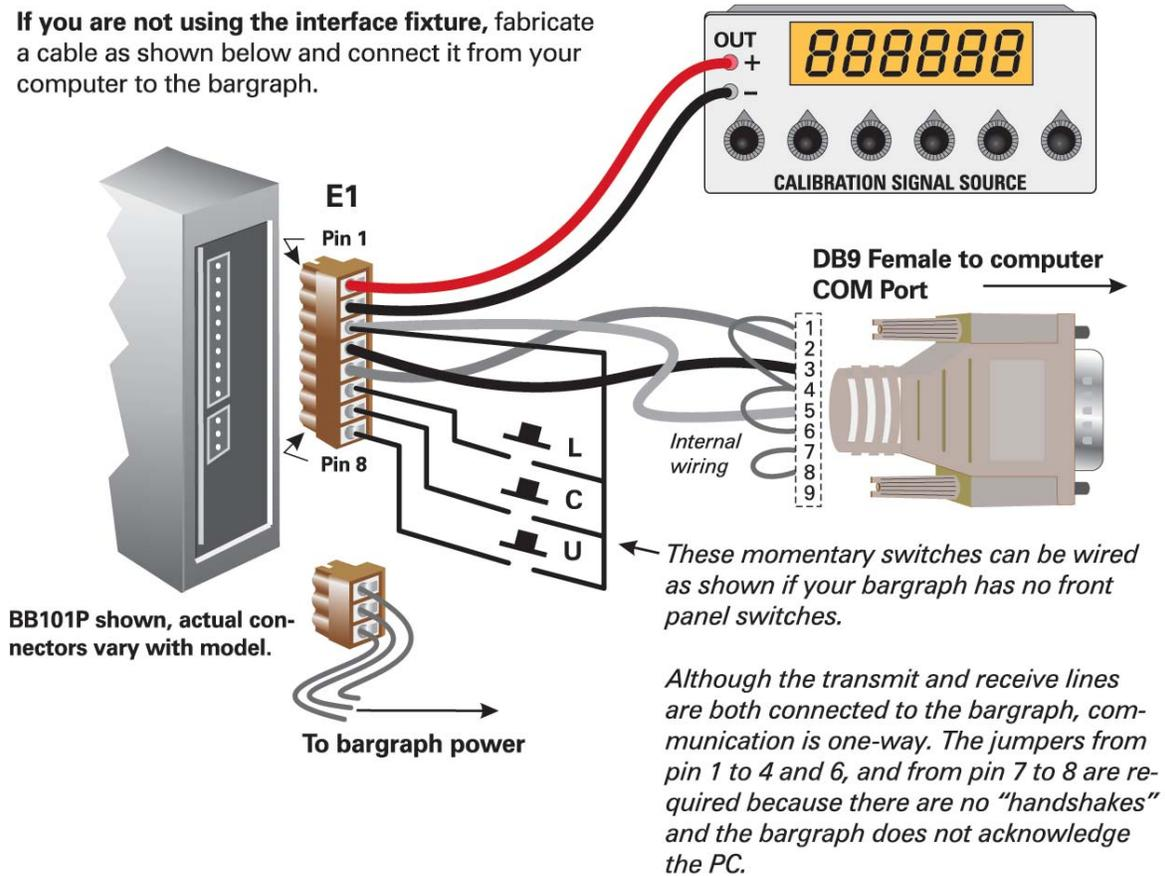

Figure 2 Connecting the Bargraph with no Calibration Fixture
5.2 Without the Calibration Fixture (see Figure 2)
1. Prepare an RS-232 cable as shown in Figure 2 to connect your computer to the bargraph.